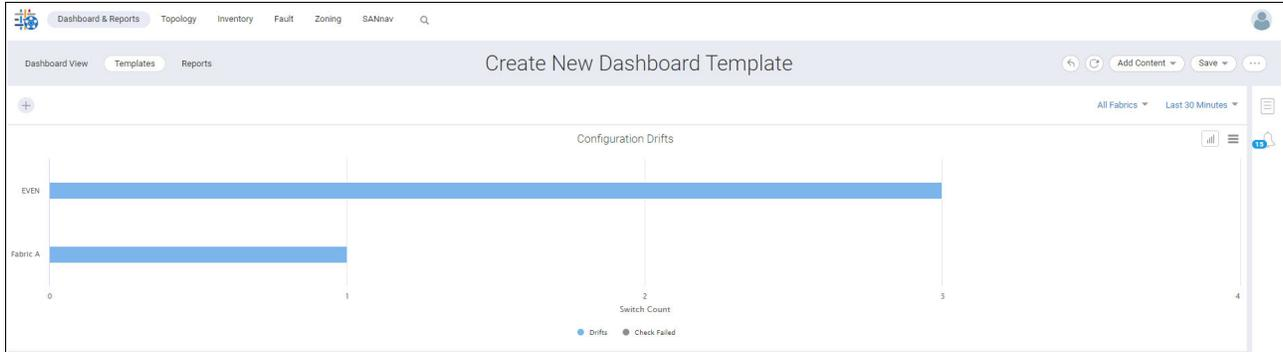

Figure 5-13 Configuration Drifts dashboard
- You also can check the dashboard to quickly see switches with configuration drifts. The Configuration Drifts widget shows a bar chart that lists the number of switches in all the monitored policies per fabric with the corresponding Drift Detected or Check Failed states. Click the **All** drop-down menu to see the switches for a specific fabric, as shown in Figure 5-13.